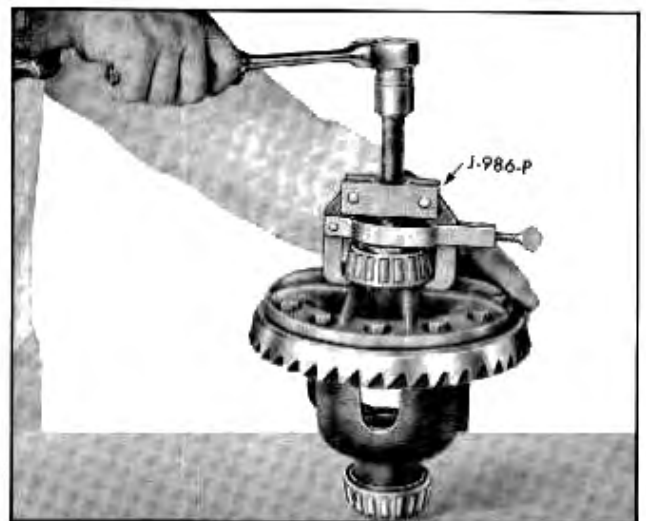

Fig. 4-39 Removing Side Bearing With Puller J-986-P
a. Remove side bearing from case using Remover J-986-P (Fig. 4-39). Hooks of puller must be placed in recesses in differential case.
4. Remove side bearings using Puller J-986-P (Fig. 4-39). **CAUTION:** Be sure end of puller arms are in recesses in sides of hub and fully against inner race of bearing.